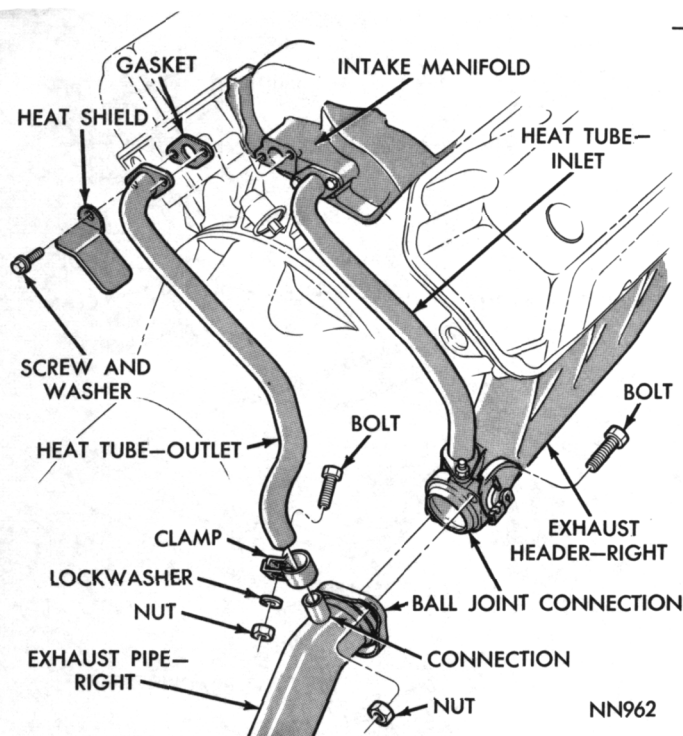

Fig. 2—Intake Manifold Heat Tube Arrangement
The heat tube arrangement (Fig. 2) is incorporated in the exhaust system to divert hot exhaust gases to a heat chamber in the intake manifold at the base of the rear carburetor.
Included in this arrangement is a thermostatic manifold heat control valve located at the rear end of the right hand exhaust header (Fig. 2). Two aluminized steel tubes provide for the passage of the exhaust
gases through the intake manifold heat chamber during the warm-up period. The inlet tube is attached to the top surface of the header by two studs and nuts (Fig. 2). The upper end of the tube is bolted to the rear face of the intake manifold. The outlet tube is also bolted to the face of the intake manifold with its lower end attached by a clamp and bolt to a short pipe connection on the exhaust pipe just to the rear of the ball joint connection.
- (1) Raise vehicle on hoist and apply penetrating oil to bolts and nuts to loosen rust and corrosion.
- (2) Remove exhaust pipe ball joint bolts and nuts at exhaust header flanges. On **right hand exhaust pipe**, also, remove heat tube clamp bolt and nut and remove clamp and heat pipe from exhaust pipe connection (Fig. 2).
- (3) Remove exhaust pipe U-bolts, washers and saddles and disconnect exhaust pipe from muffler.
- (4) Remove muffler support U-bolt nut and washers and disconnect muffler from tail pipe.
- (5) Remove tail pipe clamp screw and slip tail pipe from clamp.
- (1) To remove inlet tube, remove two stud nuts at exhaust header (Fig. 2).
- (2) Remove screws attaching upper end of inlet tube to rear face of intake manifold.
- (3) Remove tube and gaskets and discard gaskets.